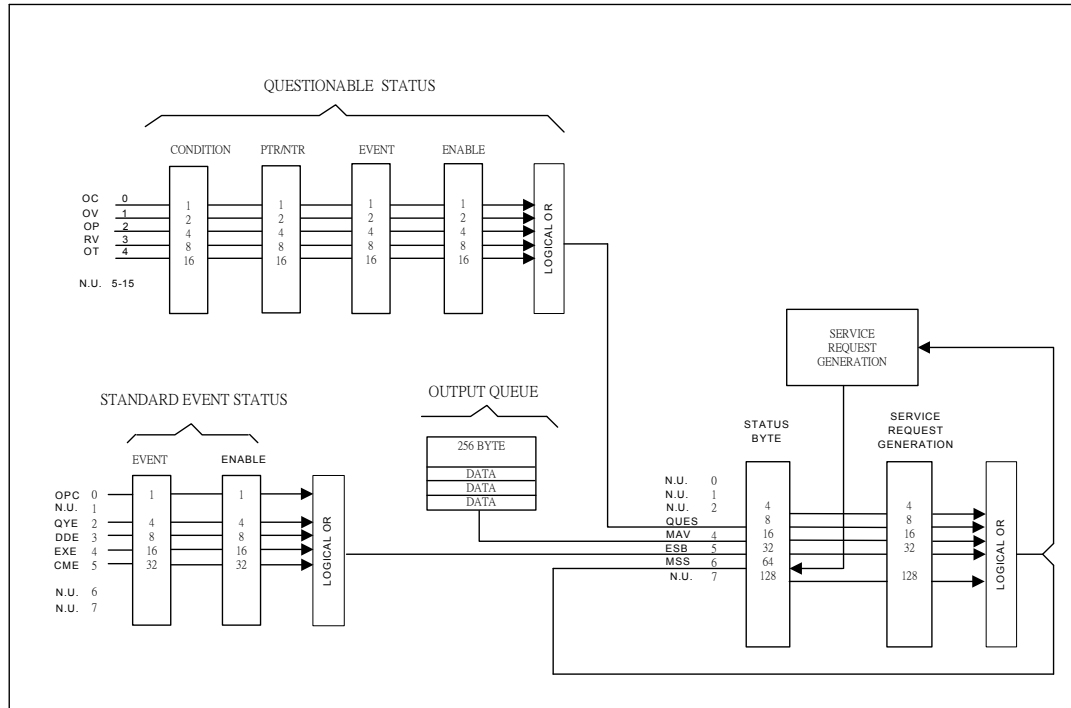

Figure 8-1 The Status Registers of Electronic Load
This chapter covers the status data structure of Chroma 63200 series electronic load as shown in Figure 8-1 (on the next page). The standard registers, such as the Event Status register group, the Output Queue, the Status Byte and Service Request Enable registers perform standard GPIB functions and are defined in IEEE-488.2 Standard Digital Interface for Programmable Instrumentation. Other status register groups implement the specific status reporting requirements for the electronic load.
- The Questionable Status registers inform you one or more questionable status conditions, which indicate certain errors or faults have occurred. Figure 8-1 lists the questionable status conditions that are applied to the electronic load.